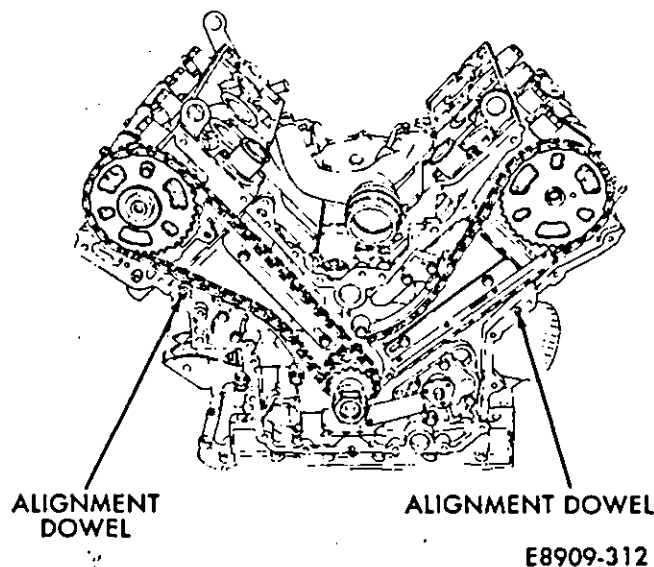

Fig. 7—Alignment Dowels
(1) Rotate the crankshaft so that the keyway points up. This will prevent the key from falling into the oil pan.
(2) Put a small amount of Jeep/Eagle Gasket-in-a-Tube Sealer at the mating lines of the cylinder head and block and the lower casing to block.
(3) Install the timing cover with a new gasket over the alignment dowels (Fig. 7).